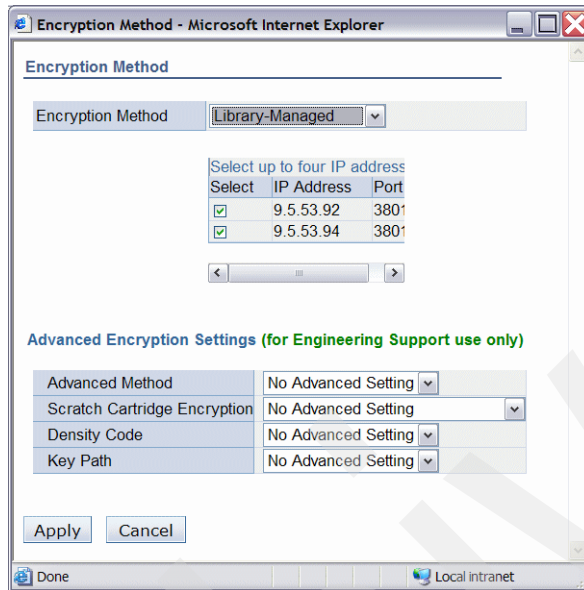

Figure 6-78 Library-managed encryption
- As soon as you change the encryption method to Library-Managed, a new field appears on the page, the key manager address selection (Figure 6-78). This is normal when you enable a tape drive for encryption; the tape drive has to know where to get its keys. By using this field, you can point the tape drive to the keystore addresses you selected earlier as described in 6.7.1, “Defining the keystores to be used by the TS3500” on page 184. After specifying the IP addresses of your choice, click **Apply** to confirm.